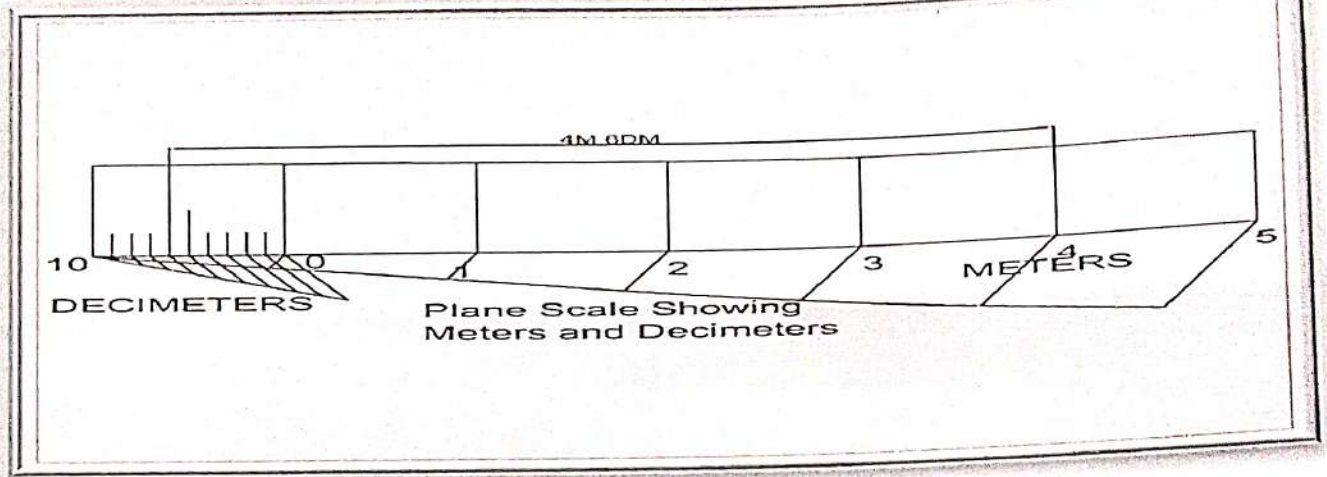

Fig 3.6
- Place (0) at the end of first unit. Number the units on right side of Zero and subdivisions on left-hand side of Zero. Take height of scale 5 to 10 mm for getting a look of scale.
- Show the distance 4 m 6 dm on it as shown Fig. 3.6.